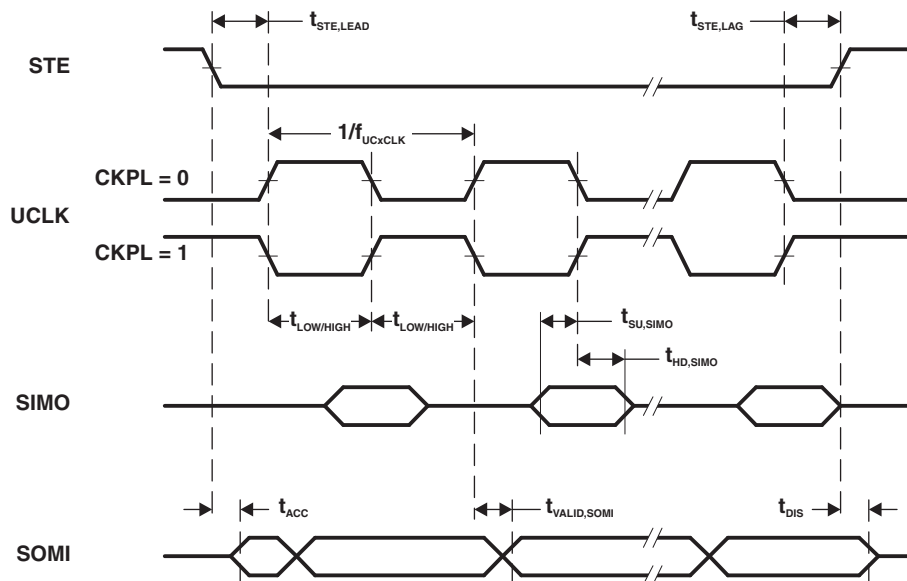

Figure 5-12. SPI Slave Mode, CKPH = 0
(1) $f_{UCXCLK} = 1/2t_{LO/HI}$ with $t_{LO/HI} \geq \max(t_{VALID,MO(Master)} + t_{SU,SI(eUSCI)}, t_{SU,MI(Master)} + t_{VALID,SO(eUSCI)})$.For the master's parameters $t_{SU,MI(Master)}$ and $t_{VALID,MO(Master)}$ refer to the SPI parameters of the attached slave.(2) Specifies the time to drive the next valid data to the SOMI output after the output changing UCLK clock edge. Refer to the timing diagrams in Figure 5-12 and Figure 5-13.(3) Specifies how long data on the SOMI output is valid after the output changing UCLK clock edge. Refer to the timing diagrams in Figure 5-12 and Figure 5-13.